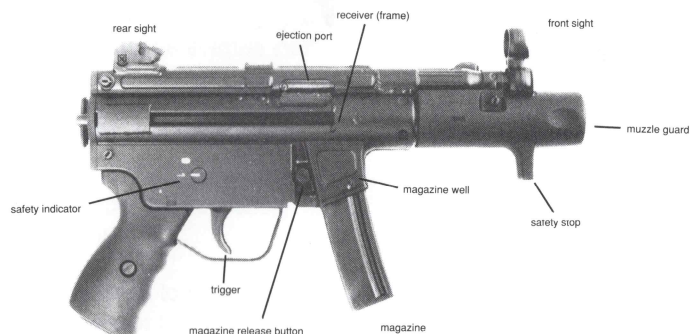

Figure 6A SP89 Right Side View
2. **IMPORTANT** - The nomenclature of the SP89's operating parts and controls follows. Please study them so that you can better understand the operating instructions. (See figures 6A & 6B)
**WARNING** - The pistol will fire if you hold the trigger pulled and switch the safety to the "fire" position (I).
2. Depress the magazine release button on the right side of the pistol (fig. 6A ) and withdraw the magazine downward and away from the pistol. Set the magazine aside.
4. Look into the ejection port (see Figure 6A) and examine the cartridge chamber at the rear of the barrel to make sure that it contains no ammunition. If the chamber is empty, place the pistol aside. If it is not, see the trouble shooting section.